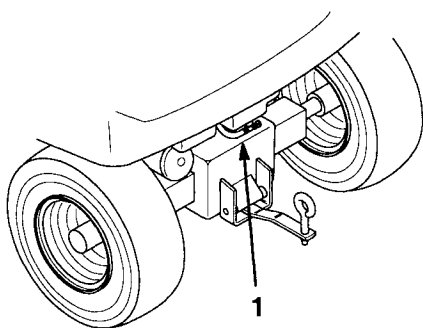

Figure 28
2. Close fuel shut-off valve at fuel tank (Fig. 28).
7. Open fuel shut-off valve at fuel tank (Fig. 28).